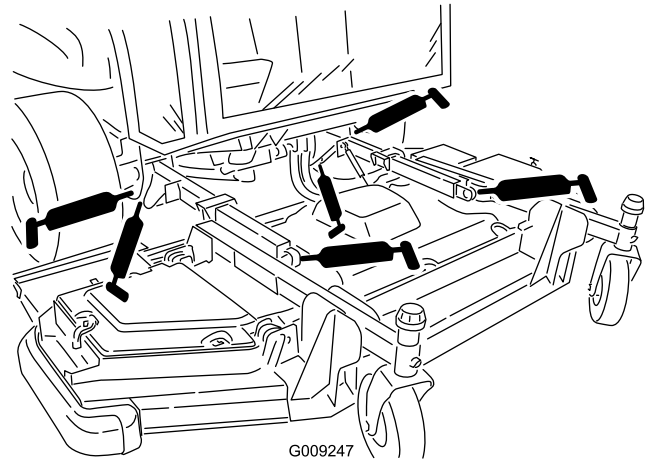

Figure 51
- Lift arm bushings (2) (Figure 51)
- Lift arm ball joints (2) (Figure 51)
- Front Deck Lift cylinder pivots (2) (Figure 51)